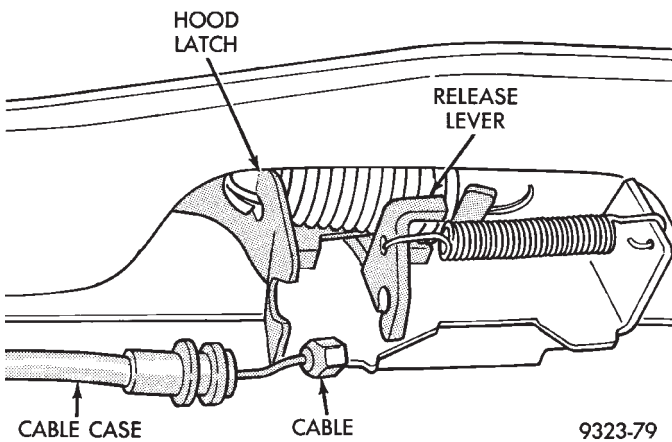
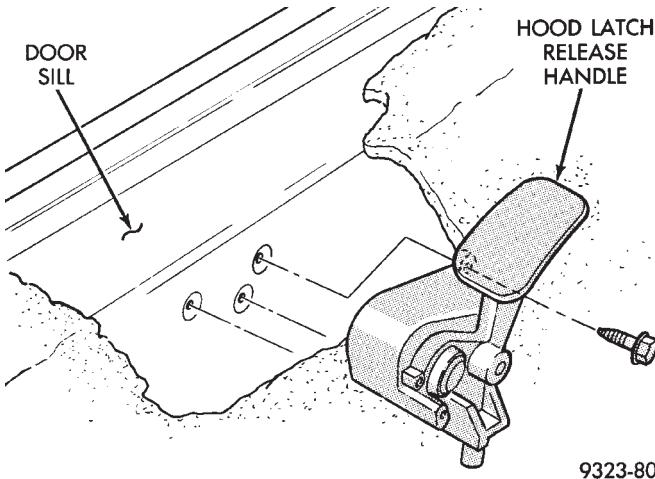

Fig. 4 Hood Release Cable
Fig. 5 Hood Release Handle
- (1) Release hood latch and open hood.
- (2) Disconnect hood release cable casing and cable end from hood latch assembly (Fig. 4). Refer to Hood Latch Removal procedure in this section.
- (3) Remove left front door sill trim cover.
- (4) Remove bolts holding hood latch release cable handle to the floor pan kick-up below the door opening (Fig. 5).
- (5) Disengage release cable rubber grommet from engine compartment dash panel behind instrument panel.
- (6) Route cable assembly through engine compartment toward the dash panel. Push cable through access hole in dash panel under the brake master cylinder, into passenger compartment.
- (7) Separate cable from vehicle.
- (1) Place cable in position on vehicle.
- (2) Push cable through access hole in dash panel under the brake master cylinder, into engine compartment. Route cable assembly through engine compartment toward the latch.
- (3) Install release cable rubber grommet into access hole in dash panel.
- (4) Install bolts to hold hood latch release cable handle to the floor pan kick-up below the door opening (Fig. 5).
- (5) Install left front door sill trim cover.
- (6) Connect hood release cable casing and cable end to hood latch assembly (Fig. 4). Refer to Hood Latch procedure in this section.